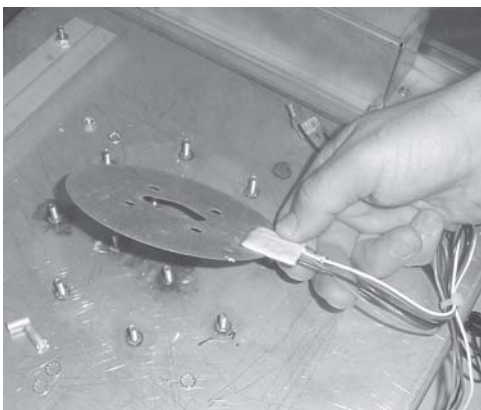

Figure 3-49
7. Pull water heater from unit. Figure 3-49.